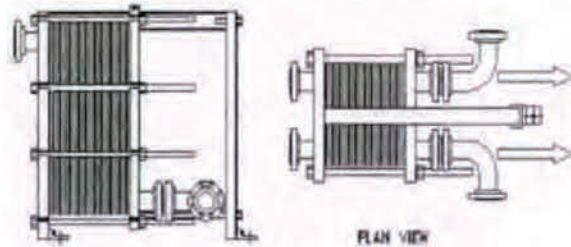

Figure 2.3 Mobile Head Fitted with Spool Nozzles
- Nozzles located at the mobile head must be installed with spool pieces as shown in figure 2.3. to allow the head to move fully backward.